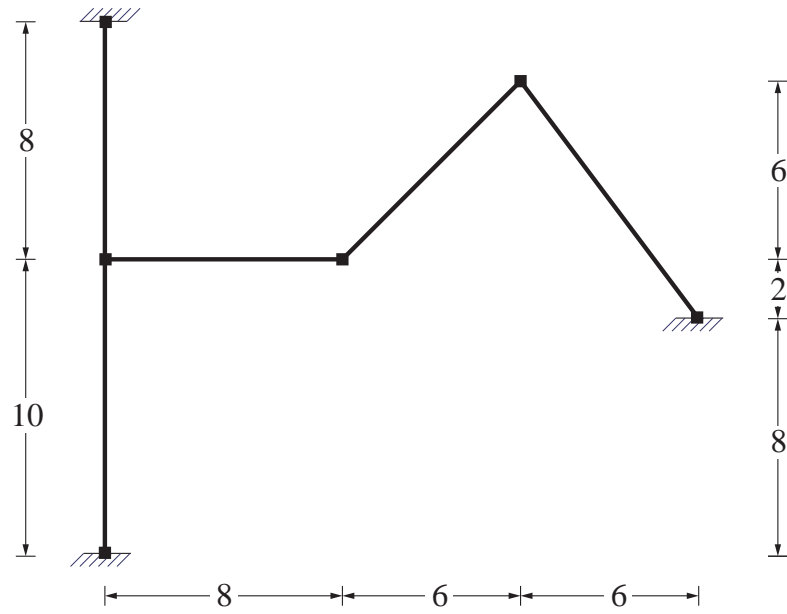

Figure 3: Bending moment diagram
2. Draw the bending moment diagram of the structure at incipient collapse in Fig. 3 and supply all bending moment values in the figure.